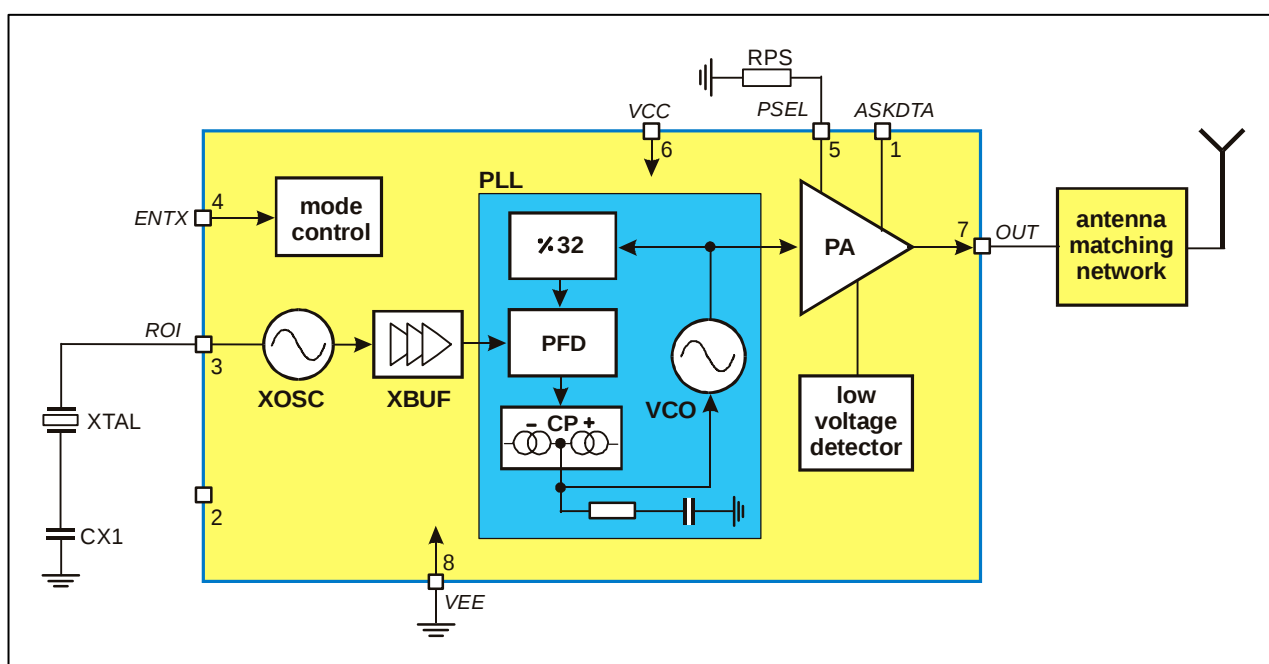

Fig. 1: Block diagram with external components
As depicted in Fig.1, the TH72002 transmitter consists of a fully integrated voltage-controlled oscillator (VCO), a divide-by-32 divider (div32), a phase-frequency detector (PFD) and a charge pump (CP). An internal loop filter determines the dynamic behavior of the PLL and suppresses reference spurious signals. A Colpitts crystal oscillator (XOSC) is used as the reference oscillator of a phase-locked loop (PLL) synthesizer. The VCO's output signal feeds the power amplifier (PA). The RF signal power  $P_{out}$  can be adjusted in four steps from  $P_{out} = -12$  dBm to  $+11$  dBm, either by changing the value of resistor RPS or by varying the voltage  $V_{PS}$  at pin PSEL. The open-collector output (OUT) can be used either to directly drive a loop antenna or to be matched to a 50Ohm load. Bandgap biasing ensures stable operation of the IC at a power supply range of 1.95 V to 5.5 V.